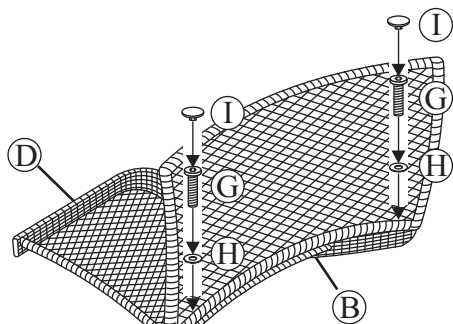
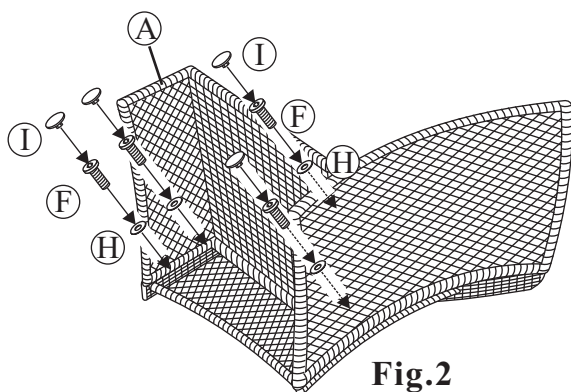
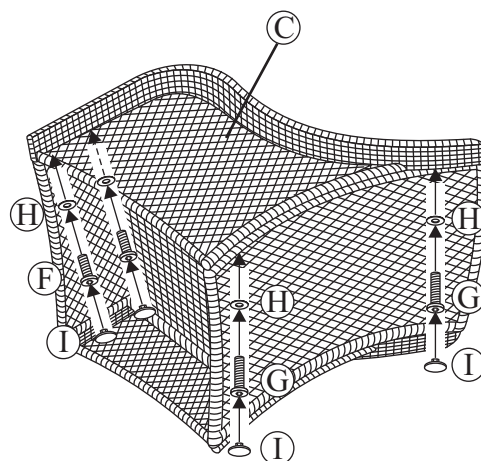

Fig.1
Fig.2
Fig.3
Attach the seat frame to the back frame by using four 5/16"x40 mm bolts and washer as shown in *Figure 1*. Guide these bolts through the holes in the seat frame, into the fixed nuts already in place in the back frame. **Do not over tighten.**
Attach love seat arm by inserting two 5/16"x25 mm bolts with washers through the holes in front seat portion of the love seat frame and into the holes in the love seat arm shown in *Figure 2*. Attach back of love seat arm by inserting two 5/16"x40 mm bolts with washers through holes in the back portion of love seat frame and into the holes in the rear portion of the love seat arm as shown in *Figure 2*. **Hand tighten only.** Repeat for the opposite side.
- 1 Assemble furniture on a smooth, non-abrasive surface. Attach the back frame to right arm by using two 5/16"x40 mm bolts and washers as shown in **Fig.1**. Guide the bolts through holes in back frame, into pre-drilled holes in the right arm. **Hand tighten only**. Attach the seat frame to right arm and back frame by using four 5/16"x25 mm bolts and washers as shown in **Fig.2**. **Hand tighten only**. Attach the left arm to back and seat frame by using two 5/16"x25 mm bolts and two 5/16"x40 mm bolts and four washers as shown in **Fig.3**. **Hand tighten only**.